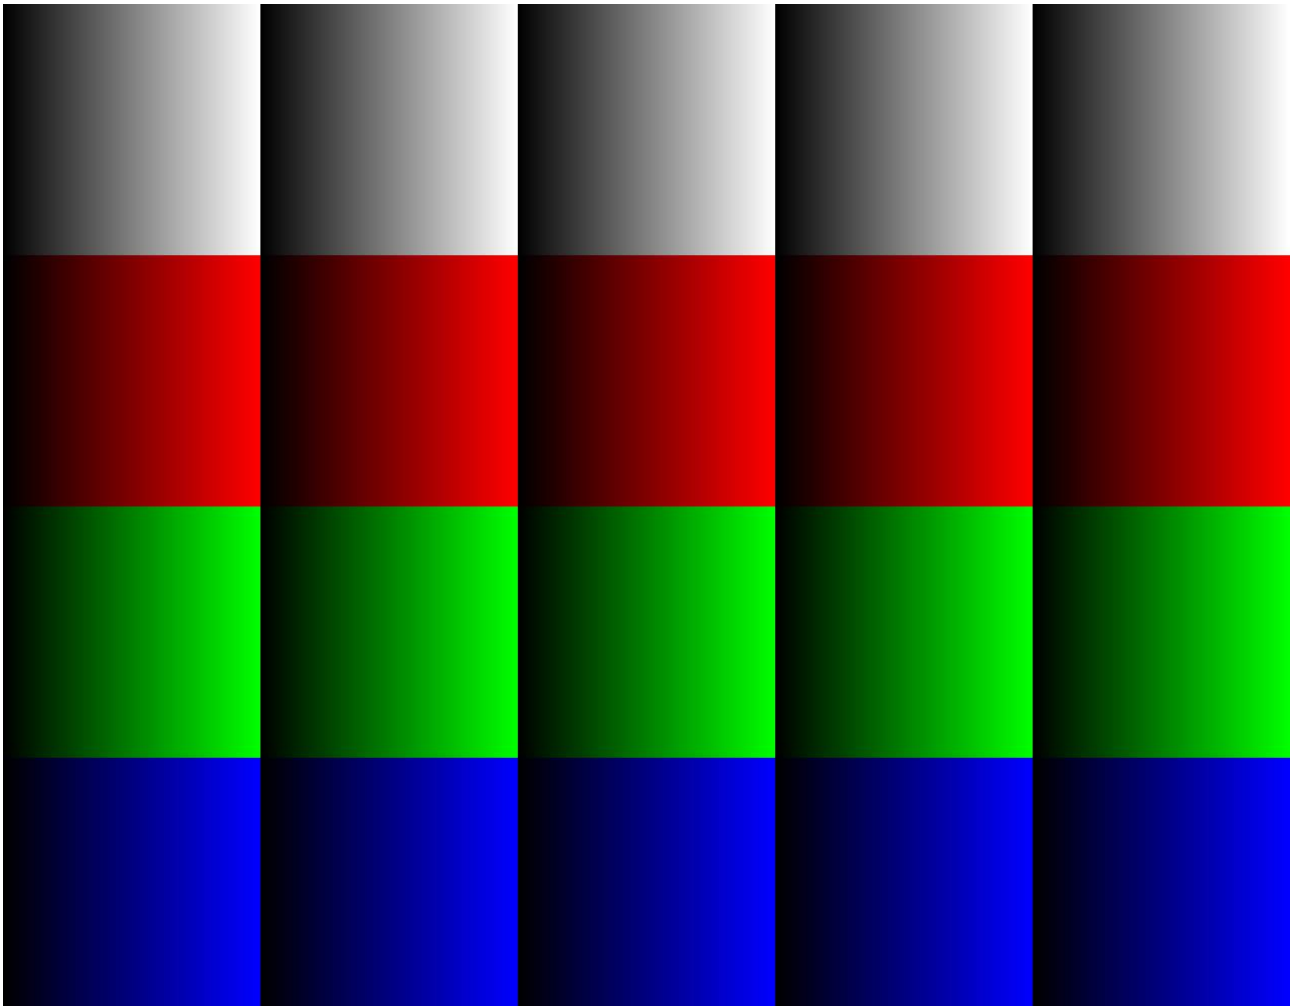

Figure 13 : Horizontal color pattern
2. Horizontal color ramp – horizontal gradient of several color stripes as shown in Figure 13.